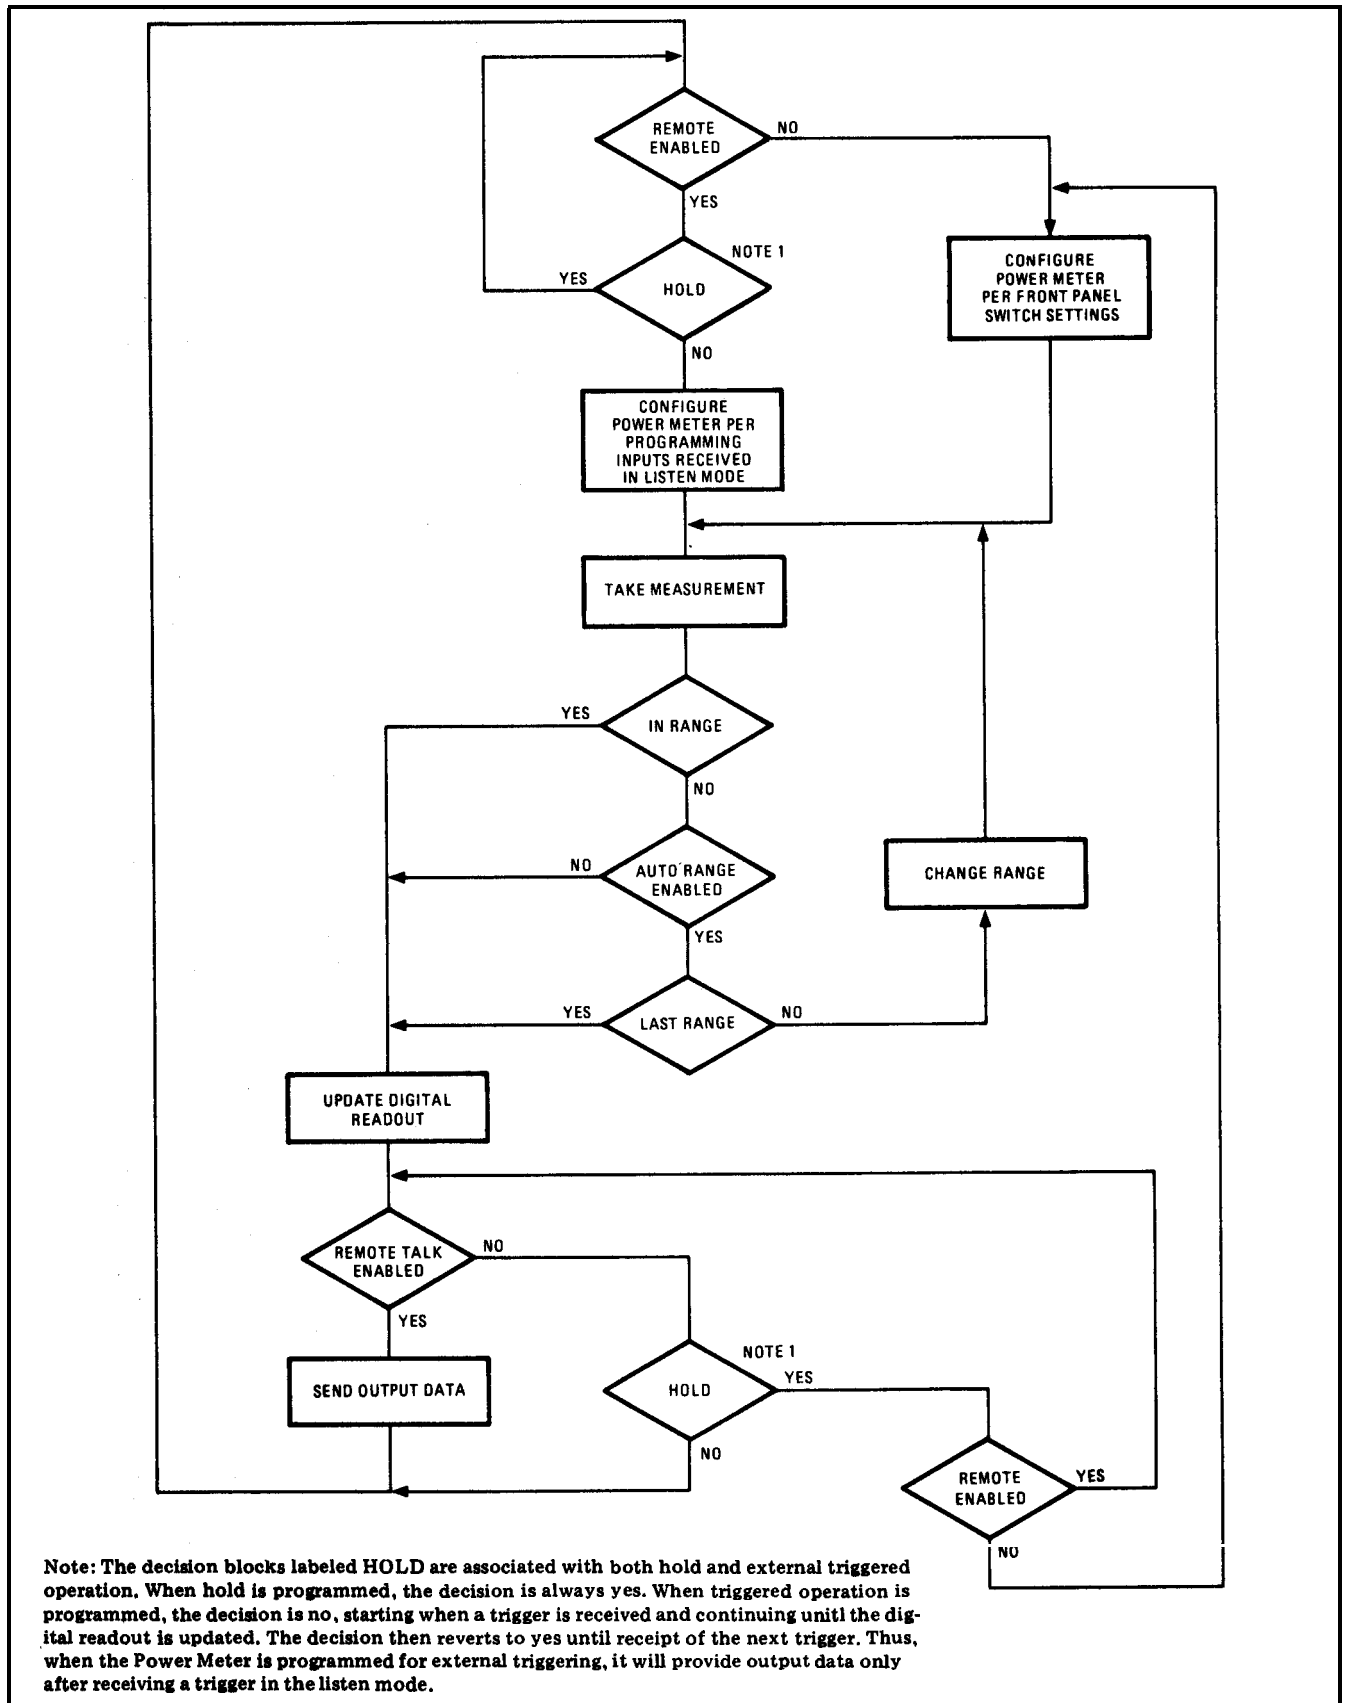

Figure 3-6. Operating Program Simplified Flow Chart
**3-31. Programming the Local to Remote Mode Change.** The second factor that must be considered when programming the Power Meter for synchronous triggered operation is whether the first trigger is sent immediately after terminating local operation. As illustrated in Figure 3-6, the Power Meter will not respond to the first trigger following a local to remote transition until it completes the previously initiated measurement and display cycle. Thus, the first data output of the Power Meter may not be valid. The options available to the programmer are:
**3-38. Data Output Time.** Figure 3-6 provides a simplified flow chart of Power Meter operation. As shown in the figure, the Power Meter operates according to a stored program and can only output
3-43. The Power Meter has provision for responding to the DCL bus command but not the SDC bus command. Upon receipt of the DCL command, the Power Meter operating program is reset causing the Power Meter to enter the Hold state shown at the top of Figure 3-6, and the HP-IB circuits are configured to provide Watt Mode, Auto Range, and Cal Factor Disable outputs.
3-45. When the Power Meter receives the Remote Message (REN line low) it completes the rest of its current measurement cycle (see Figure 3-6) and then goes to remote. See the Local to Remote Mode Change (paragraph 3-31) for information about how to program the local to remote mode change.